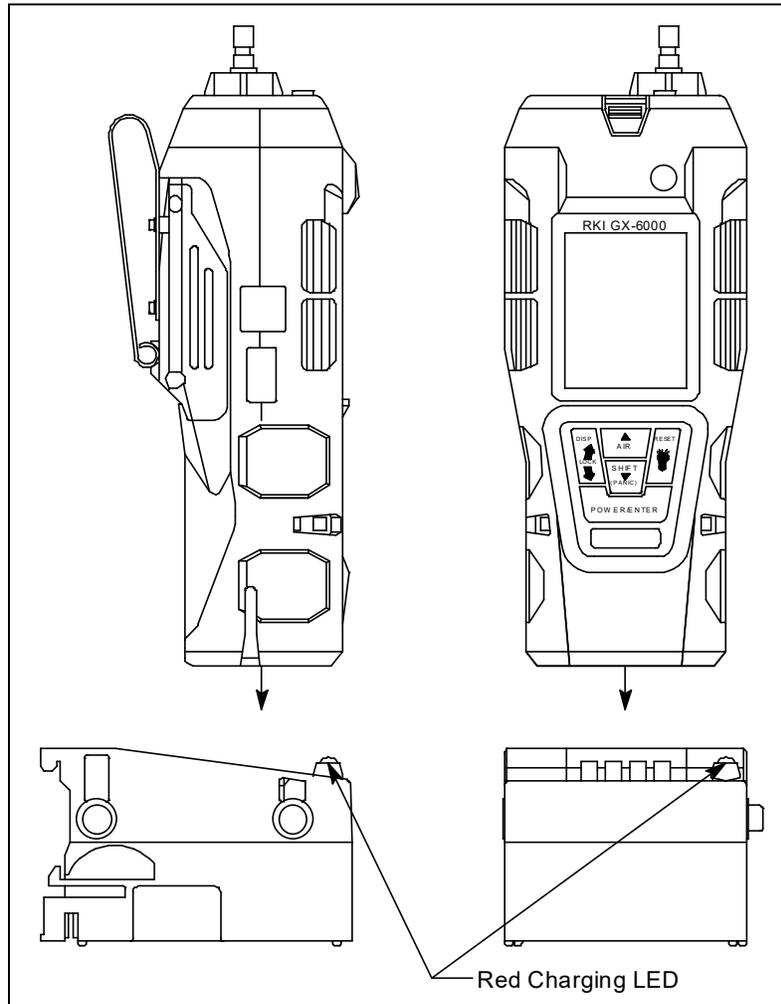

Figure 20: Putting the GX-6100 into the Charging Station
- Place the GX-6100 into the battery charging station as shown in Figure 20 below so that the metal contacts on the back of the unit come into contact with the metal contacts on the back of the holder in the charging station. When proper contact has been made, the red LED on the charging station will turn on.